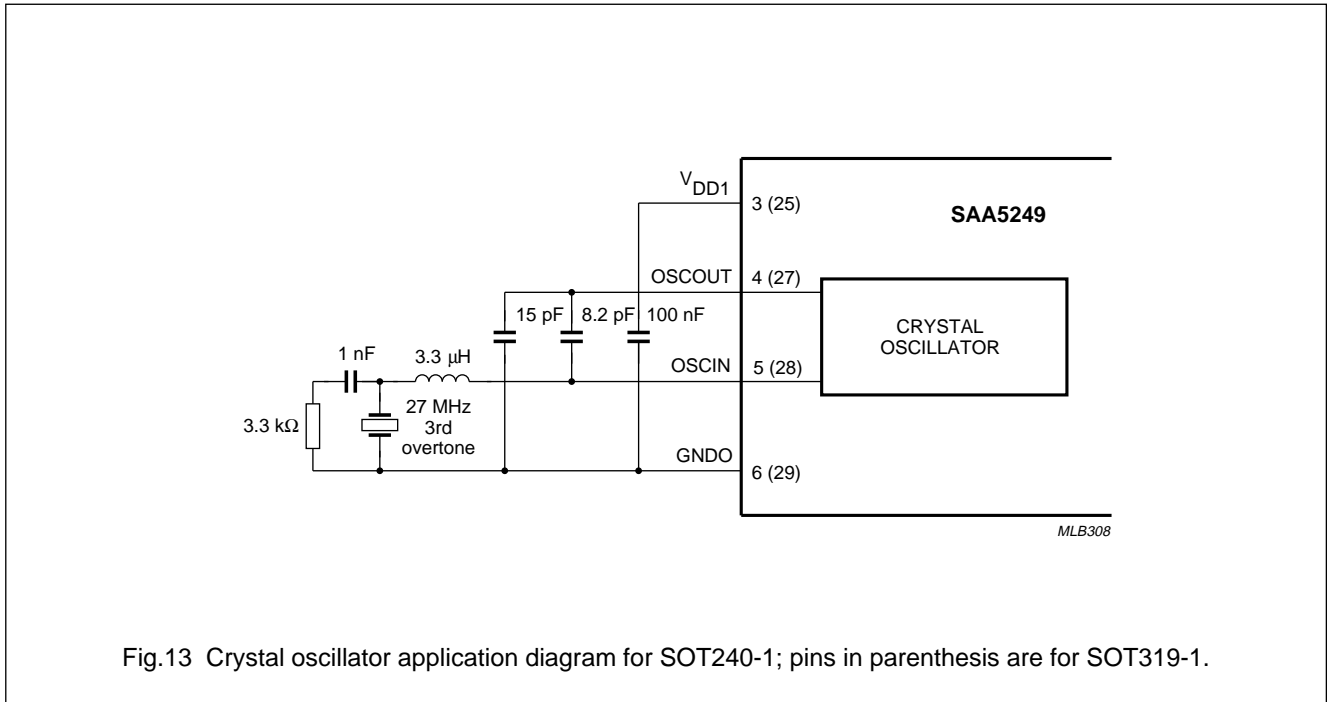

Fig.13 Crystal oscillator application diagram for SOT240-1; pins in parenthesis are for SOT319-1.
The crystal is a conventional 2-pin design operating at 27 MHz. It is capable of oscillating with both fundamental and third overtone mode crystals. External components should be used to suppress the fundamental output of the third overtone as illustrated in Fig.13.
**Table 11** Crystal characteristics (see Fig.13)